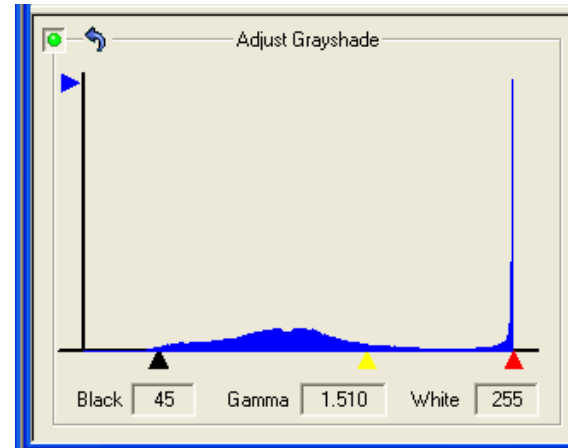
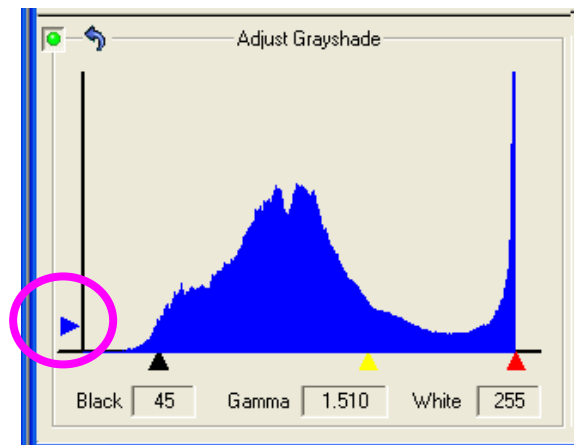

Fig. 3.4.4: Adjust Grayshade Function
Fig. 3.4.5: Vertical Scaling
Figure 3.4.4 displays a histogram, or distribution, of the gray shades in the Original (input) image. The horizontal axis ranges from zero (black) on the left to 255 (white) on the right. The height of the distribution indicates the relative number of image elements (pixels) that have the gray shade indicated by the corresponding point on the horizontal axis. (If a distribution is very “peaked” at certain gray shades, then the peaks are truncated and other heights scaled to prevent the peaks from totally dominating the distribution). As an example, for the distribution displayed in Fig. 3.4.4, there are many more values of “white” in the image compared to any other gray shade producing a large spike at the very far right of the histogram. The rest of the histogram looks to have a higher concentration of values near the middle of the gray shaded spectrum.
The left (black) and right (red) triangles below the horizontal axis specify the black and white clipping values, respectively, for the “Adjust Grayshade” function, i.e., all grayshades to the left of the left triangle are set to black (zero) and all grayshades to the right of the right triangle are set to white (255) and the grayshades between are linearly scaled. The “Black” and “White” labels to the left of the distribution specify quantitatively the black and white clipping values (45 and 255, respectively, for the distribution in Fig. 3.4.4). The clipping values can be changed by “clicking and dragging” the triangles. As a result, the “Black” and/or “White” quantitative values will change and the effect will show up as a change in the Processed and simulated Image. The clipping values can also, of course, be reset by clicking the small blue “Reset” arrow. (Note: All the engraving materials delivered with **PhotoGrav** calculate the “1%” clipping values for the grayshade distribution).
The blue triangle (Fig 3.4.5) that slides in the vertical direction located on the left side of the histogram provides a scaling function so that a few values do not dominate the graph. Note that in Figure 3.4.5 the histogram shows a much more evenly distributed display thus far more readable. Both Figure 3.4.4 and Figure 3.4.5 are the exact same histogram but note how the two blue vertical triangles have different locations. By adjusting this vertical scaling triangle a much more readable view of the image distribution is achieved.